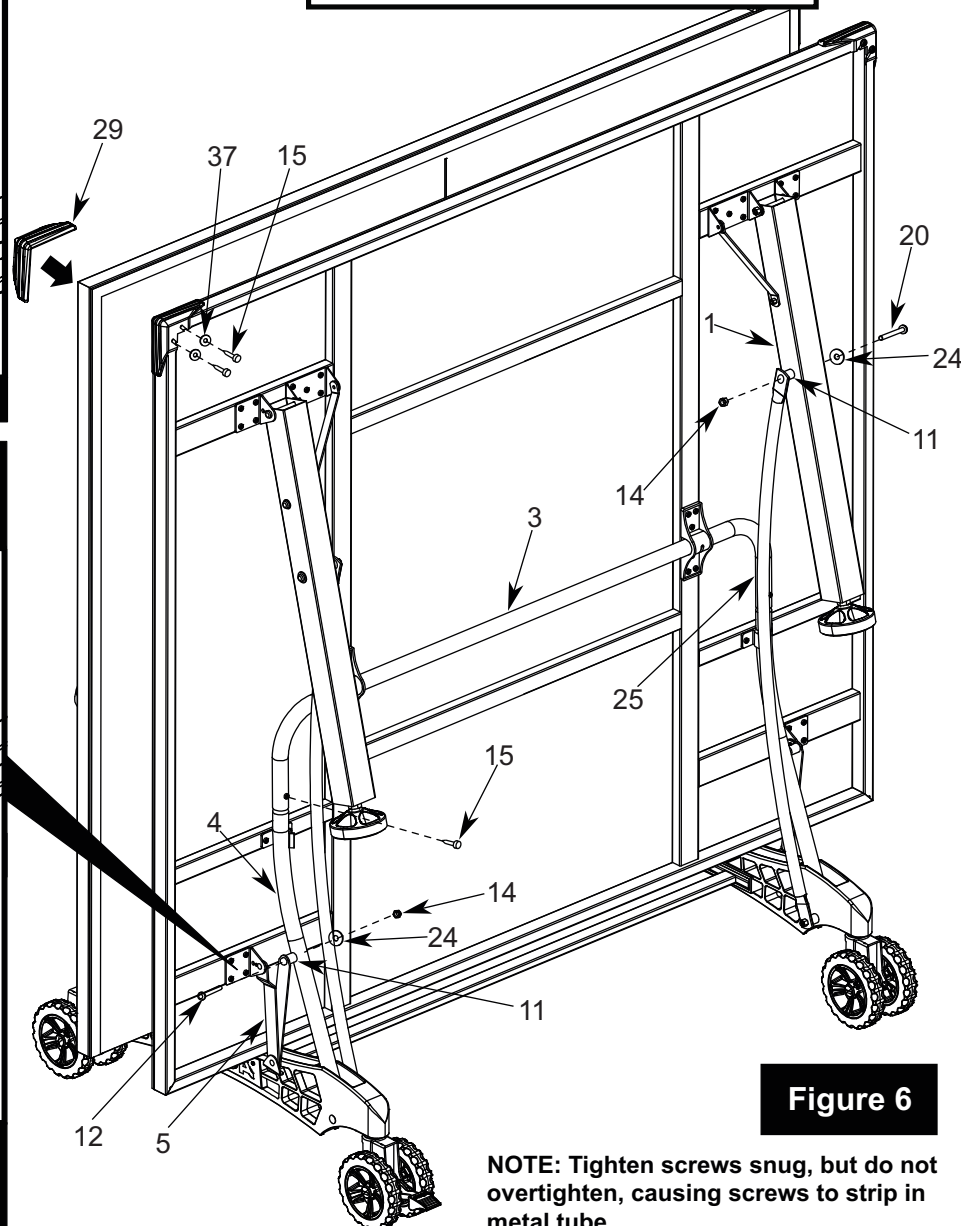

Figure 6
6. A) Attach U-Support (#3) and Strut Tubes (#4) using two Phillips Rd. Hd. Screws (#15) as shown in **FIGURE 6**.
B) Attach Long Hinge & Mounting Bracket Assemblies (#5) to Strut Tubes (#4) using two Bolts (#12), two Spacers (#11), two Flat Plastic Washers (#24) and two Locknuts (#14) as shown in **FIGURE 6 & DETAIL C**.
C) Attach Linkage Tubes (#25) to Square Legs (#1) using two Hex Head Bolts (#20), two Flat Plastic Washers (#24), two Spacers (#11) and two Locknuts (#14) as shown in **FIGURE 6**.
D) Attach two Corner Protectors (#29) to Top Assembly using four Screws (#15) with four Washers (#37) as shown in **FIGURE 6**.